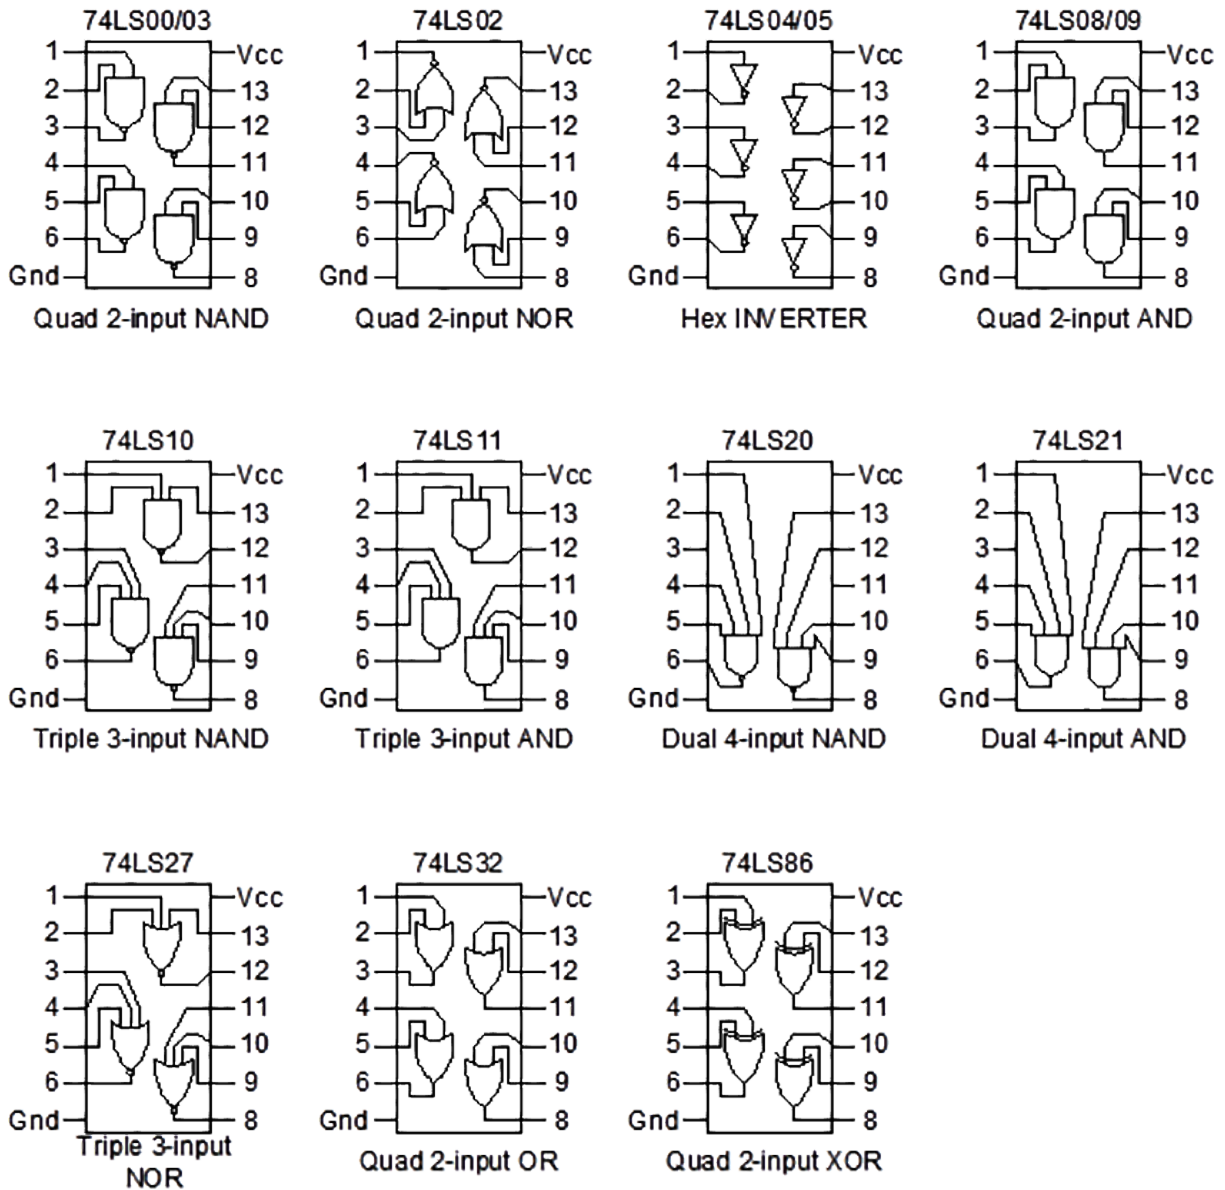

Figure 3: Schematics of 7400-series TTL Chips
**Important:** You are allowed to use only the following packages (see Figure 3): 74LS04 (NOT gates), 74LS08 (AND gates) and 74LS32 (OR gates).